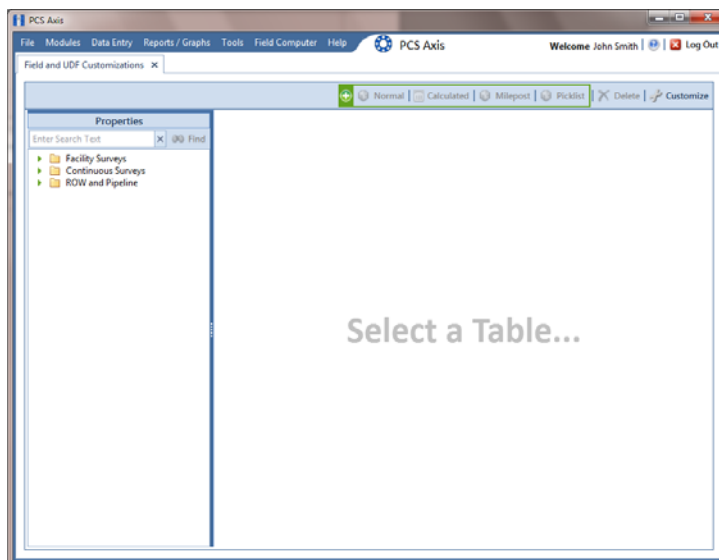

Figure 3-25. Field and UDF Customizations
- 1 Click **Tools > Field and UDF Customizations** to open the *Field and UDF Customizations* window (Figure 3-25).
- 1 Click **Tools > Field and UDF Customizations** to open the *Field and UDF Customizations* window (Figure 3-25, page 64).
- 1 If the *Field and UDF Customizations* window is not open, click **Tools > Field and UDF Customizations** (Figure 3-25, page 64).